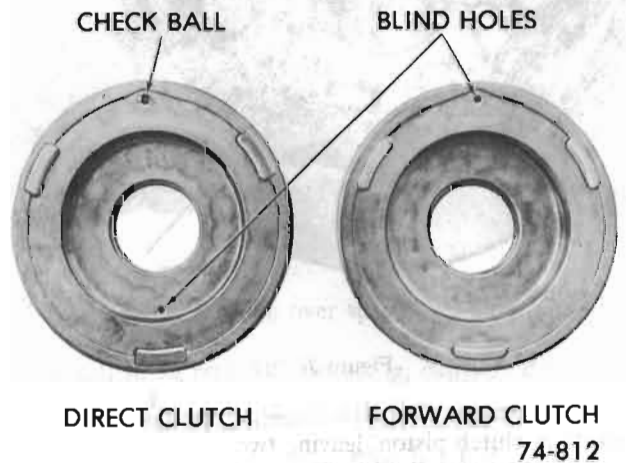

Figure 76-207
**NOTE:** Make certain the piston has a ball check (Models "BB" and "OW" direct clutch piston has two (2) check balls). The piston with a blind hole is for the forward clutch assembly. See Figure 76-207.